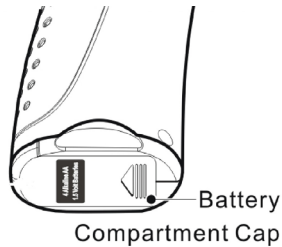

Fig. 4
- 1) Turn the handheld display unit upside down to expose the battery compartment cap. **(Fig.4)**